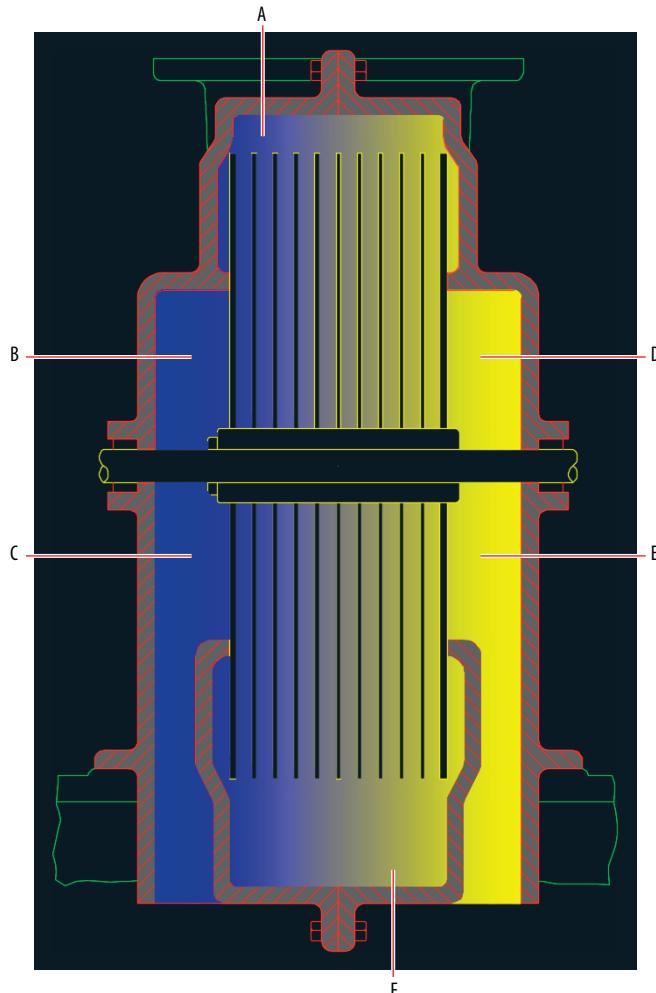

FIGURE 8.19 Picking points to determine boundaries for gradient hatch
1. Open the flyout next to the Hatch tool on the Draw panel, and select Gradient from the menu. Click the Pick Points button in the Boundaries panel and then click points A through F shown in Figure 8.19.